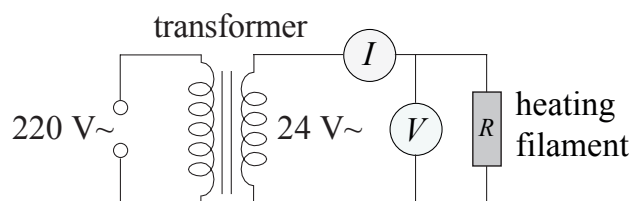

Figure 5.2: Electric circuitry.
- Mount the electric circuit following Fig. 5.2. Please, ask the assistant to check the circuitry *before* switching on!